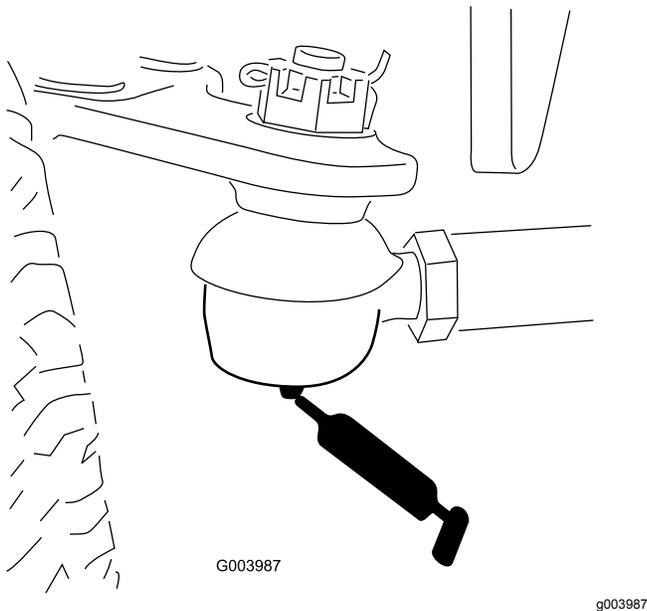

Figure 68
- Rear axle tie rod (2) (Figure 68)